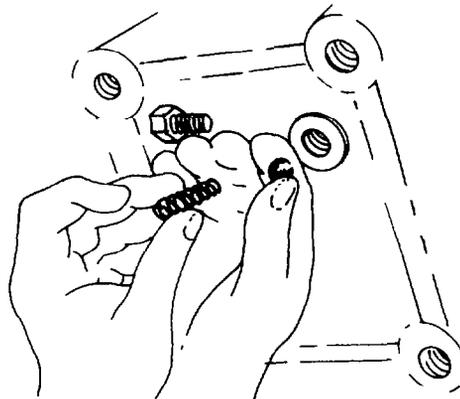

Fig. 249 — Installing Detent Ball
- k. Install the selector fork detent ball, spring, and retaining bolt in the hole provided at the right-hand mounting pad (see fig. 249).